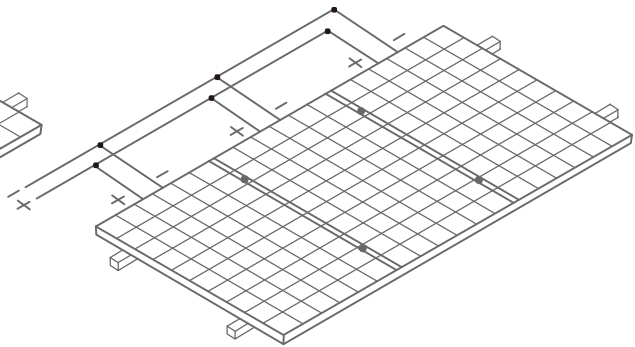

Figure 6 Parallel connection mode
- When connected in parallel, the output current of the whole series of the modules is equal to the current sum of each branch module or module series (parallel connection mode is shown in Figure 6). Each series of modules should be fused. Please refer to the national or local specifications. Refer to the formula for the maximum number of modules connected in parallel: $\text{Maximum protection current} / (1.25 * \text{short circuit current})$.